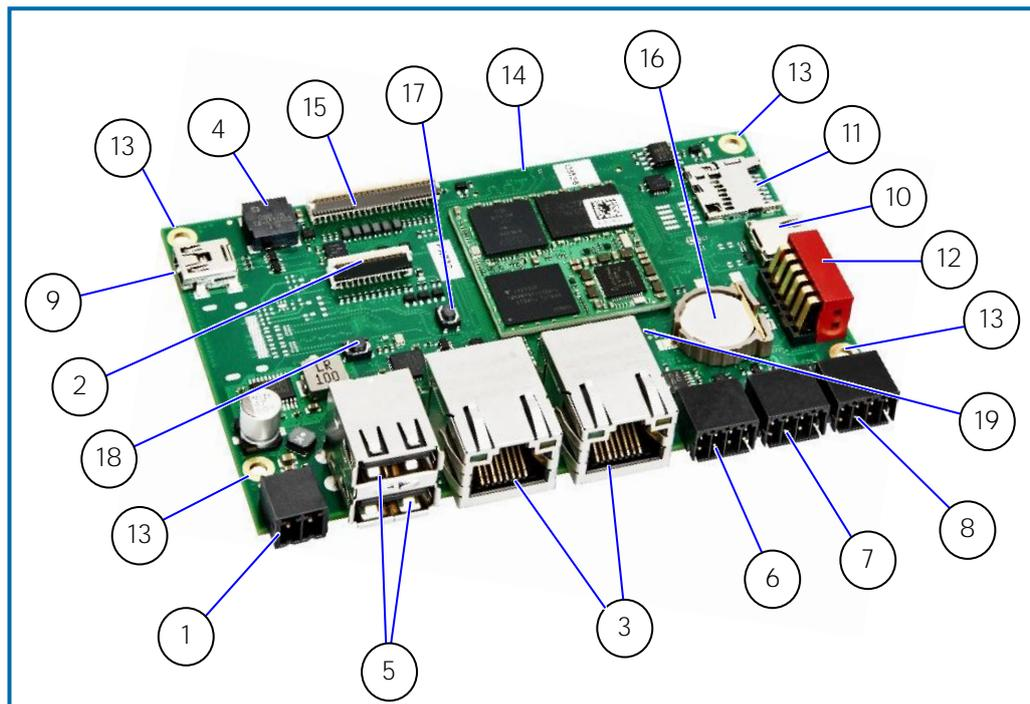

Figure 7: Top Side View
There is one 2-pin power connector on the top side of the board supporting an input DC voltage range of 24 V DC $\pm 20\%$, see Figure 7 (pos. 1). The mating connector required to connect the power connector to a DC main power source is supplied with the BL i.MX93 DC. For information on how to connect the supplied mating connector to the input power source, refer to Chapter 7.2: Wiring the DC Mating Power Connector.
There is a 2-lane MIPI CSI interface (1080p @30 fps) for camera solutions, see Figure 7 (pos. 2).
There are two LAN ports, see Figure 7 (pos. 3). In the software these are referred to as ETH0 and ETH1. The assignment between LAN2/LAN1 and ETH0/ETH1 depends on the software. In order to achieve the specified performance of the Ethernet ports (1 Gbit/s), shielded category 5E, 6 or 6E twisted pair cables must be used. For the pin assignment of the RJ45 Ethernet connectors, refer to Chapter 10.2.3: Ethernet RJ45 Connector (X1001 + X1101)
There is a buzzer connected to PWM_1 (F18) via a N-channel MOSFET, see Figure 7 (pos. 4).
There are two USB 2.0 ports allowing for the connection of USB 2.0 compatible devices, see Figure 7 (pos. 5). The USB ports are designed for connecting short cables only.
There is a RS232 interface (RX/TX) supporting RTS/CTS, see Figure 7 (pos. 6). The RS232 interface is not designed for connecting cables longer than 3 m.
The RS485 interface in Figure 7 (pos. 7) contains also the wiring for CAN. The RS485 interface is not designed for connecting cables longer than 30 m.
The CAN interface in Figure 7 (pos. 7) also contains the wiring for RS485. The CAN address switches 1...4 are connected directly to GPIO pins and can therefore also be used for other purposes. The CAN interface is not designed for connecting cables longer than 30 m.
There is a four port DIO interface available on the front of the BL i.MX93 DC, see Figure 7 (pos. 8).
There is a debug interface using UART protocol with a Mini-B USB connector, see Figure 7 (pos. 9).
There is a USB 2.0 Type-C UFP interface that can act as USB device, see Figure 7 (pos. 10).
There is a card slot to connect a microSD card for extra memory, see Figure 7 (pos. 11).
The GND pin of the power connector is connected to functional earth of the electronics and to the four mounting holes on the edges of the circuit board, see Figure 7 (pos. 13).
There is an extension connector for connecting customized add-on boards, see Figure 7 (pos. 14).
There is a LVDS interface to connect a LVDS display, see Figure 7 (pos. 15).
There is a Power Button to shut down the device, see Figure 7 (pos. 17).
There is a Reset Button to restart the device, see Figure 7 (pos. 18).
There is a switch to activate or deactivate the recovery mode, see Figure 7 (pos. 19).